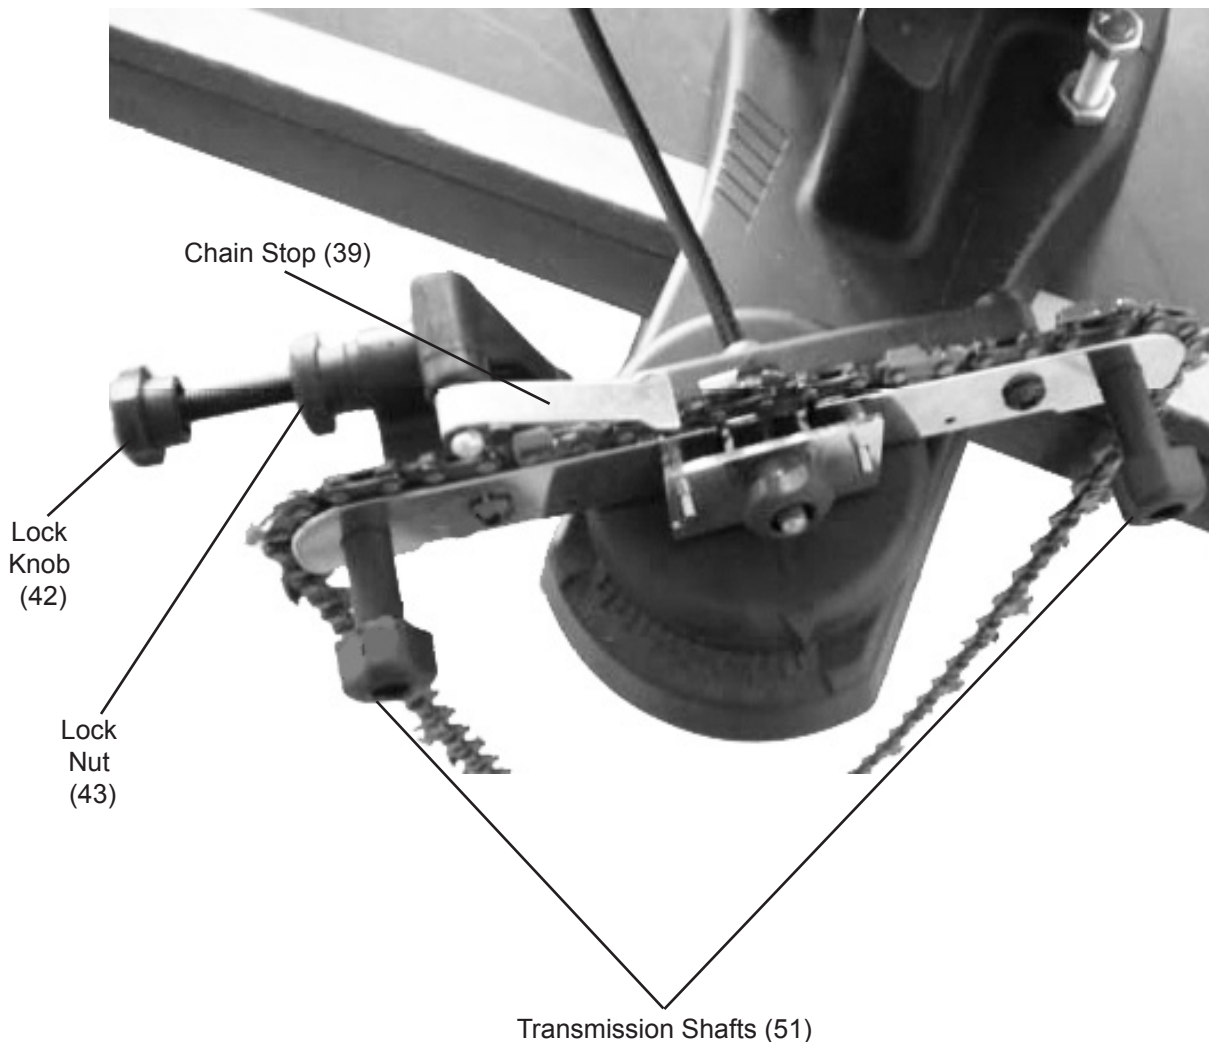

Figure 3
2. Turn the Transmission Shafts to secure the chain saw link in place along the Vise Base. See Figure 3, below.